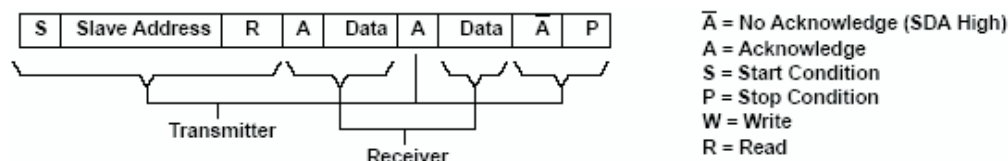
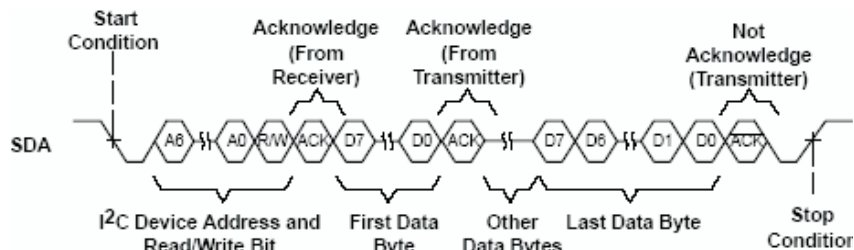

Figure 27. I²C Read Cycle
Figure 28. Multiple Byte Read Transfer
During a read cycle, the slave receiver acknowledges the initial address byte if it decodes the address as its address. Following this initial acknowledge by the slave, the master device becomes a receiver and acknowledges data bytes sent by the slave. When the master has received all of the requested data bytes from the slave, the not acknowledge (A) condition is initiated by the master by keeping the SDA signal high just before it asserts the stop (P) condition. This sequence terminates a read cycle as shown in Figure 27 and Figure 28. See the Reading from the SN75DP129, an example section for more information.
The SN75DP129 operates using a multiple byte transfer protocol similar to Figure 28. The internal memory of the SN75DP129 contains the phrase *DP-HDMI ADAPTOR<EOT>* converted to ASCII characters. The internal memory address registers and the corresponding values can be found in Table 3.